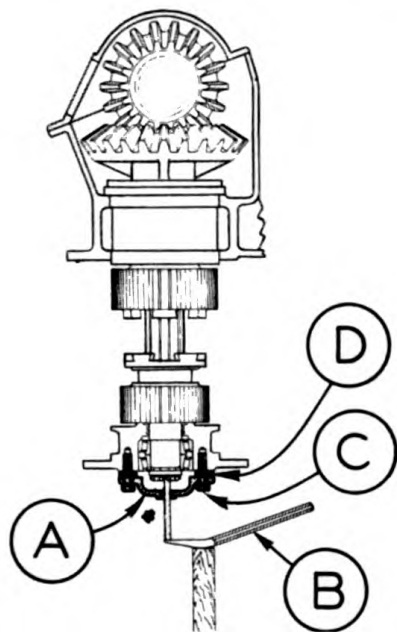

FIGURE 66
#### SWING AND TRACTION BEVEL GEAR SHAFT ADJUSTMENT (See Figure 66)
The swing and traction bevel gear shaft should be inspected at regular intervals to determine if any end play has developed. To check the shaft, remove the grease gun connection from the bearing retainer cap (A) and insert a  $\frac{3}{8}$ " drift pin about 4" long into the grease gun connection hole, and under the pin set a pinch bar (B) supported by a timber as illustrated in Figure 66. Bear down and raise pinch bar and if shaft moves up and down from  $\frac{1}{16}$ " to  $\frac{1}{8}$ " or more, there is excessive end play which will require adjustment. To adjust, remove the six capscrews (C). This will allow the bearing retainer cap (A) to be removed. Be careful that the shims (D) do not drop down and become lost. Remove one shim (D). Replace the bearing retainer cap (A) and the capscrews (C). Be sure to tighten the capscrews evenly when screwing them back into place. Check shaft and if excessive end play remains, repeat the adjustment, removing only one shim at a time, until all but a very slight movement is eliminated.